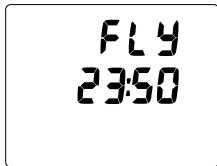

Fig. 47 - time to fly
**TIME TO FLY**, information includes (Fig. 47):